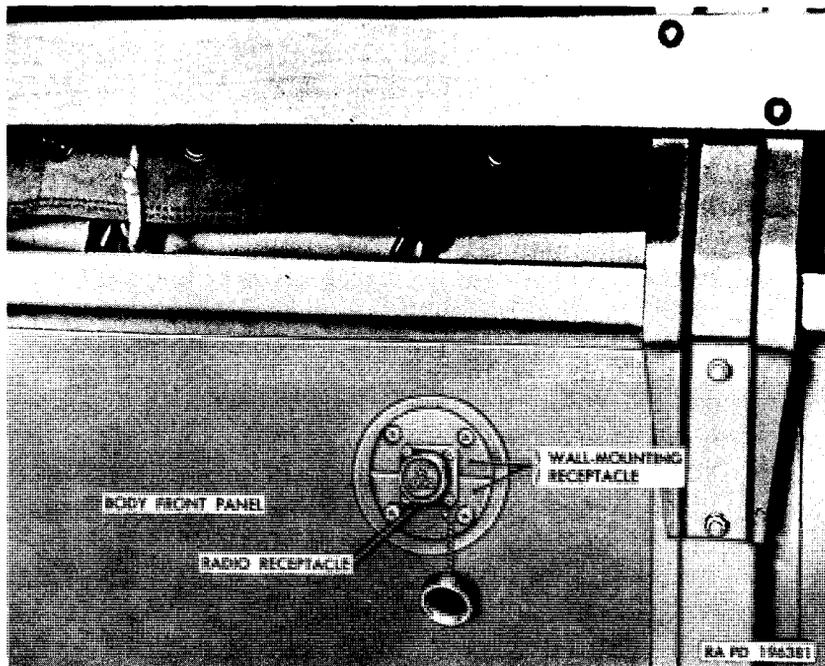

Figure 148. Radio receptacle in body front panel.
- (1) Disconnect the ground cable from the negative (-) post of the outer battery, and remove the radio receptacle cable from the terminal.
- (2) Disconnect the other receptacle cable terminal from the positive (+) terminal of the inner battery.
- (3) Disengage the cable from the cable clip in the driver's compartment.
- (4) Remove the four small screws that secure the radio receptacle to the wall mounting receptacle (fig. 148) and pull the receptacle and cable from the mounting receptacle. Remove the four screws that secure the mounting receptacle to the body front panel, and remove the receptacle.
- (1) Thread the receptacle cables through the receptacle opening in the body panel and through the weatherseal in the cab rear panel.
- (2) Fit the two sections of the wall mounting receptacle on the body panel and install the four $\frac{1}{4}$ -28NF x $\frac{3}{4}$ roundhead lockwasher screws. Position the radio receptacle (fig. 148) and install the four No. 8-32NC x $\frac{3}{8}$ lockwasher screws, attaching the cover chain with one of the screws.
- (3) Connect the radio receptacle positive (+) cable terminal to the positive (+) terminal of the inner battery, and the negative (-) terminal to the negative (-) terminal of the outer battery.
- (4) Connect the ground cable to the negative (-) post of the outer battery.